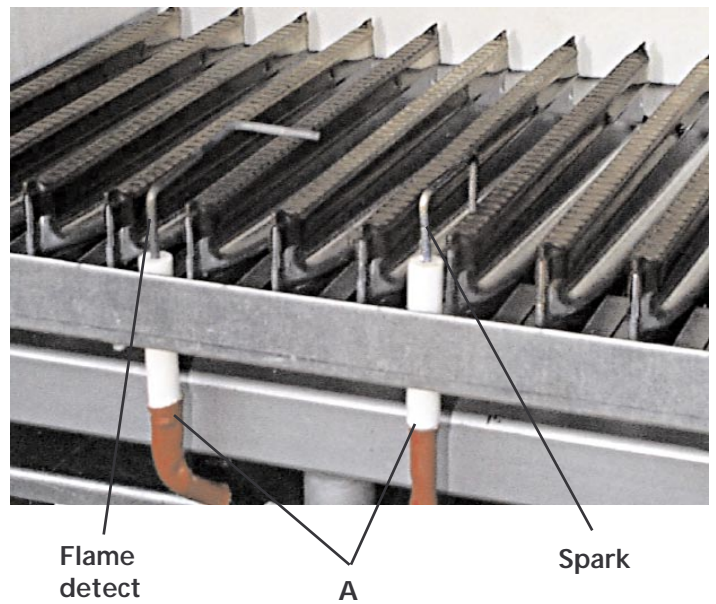

Fig. 32
(fig. 32)
- Identify electrode from fig. 32